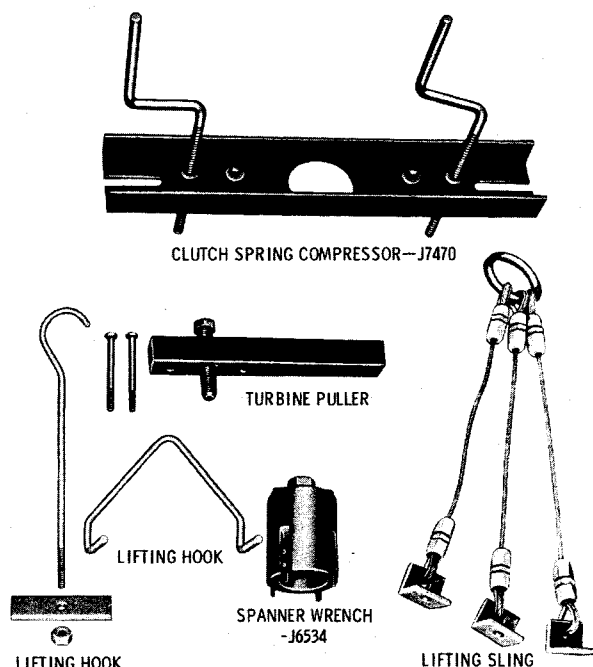
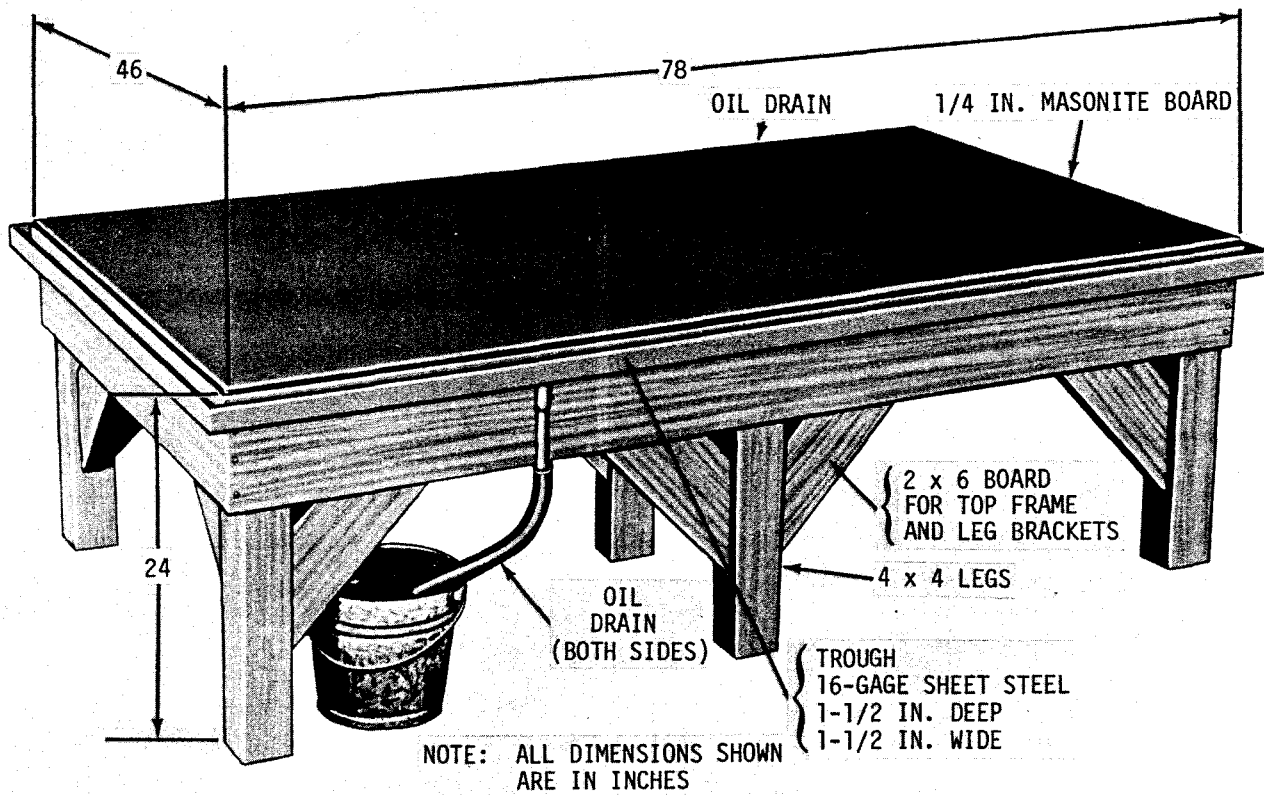

Fig. 4-1. Special and improvised tools
Fig. 4-2. Disassembly and assembly table
a. Special, Improvised Tools. Figure 4-1 illustrates the special and improvised tools which are helpful in the overhaul of the transmission. Clutch spring compressor J 7470, and spanner wrench J 6534 may be ordered from Kent-Moore Organization, Inc., 28635 Mound Road, Warren, Michigan 48092. Other tools in figure 4-1 may be fabricated, or similar items used or adapted for use.
- (1) Chain hoist (at least 1 1/2-ton capacity).
- (2) Suitable disassembly and assembly table (fig. 4-2).
- (3) Press (for removal, installation of press-fit parts).
- (4) Supply of wood blocks.
- (5) Clean wiping cloths (do not use linty waste).